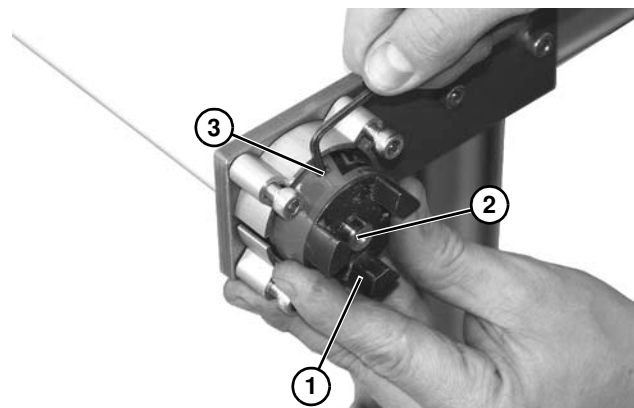

Figure 5
6. Install 3 jaw coupling (Figure 5, item 1) onto shaft (Figure 5, item 2).
7. Be certain 3 jaw coupling is fully on shaft and secure position with set screw (Figure 5, item 3).